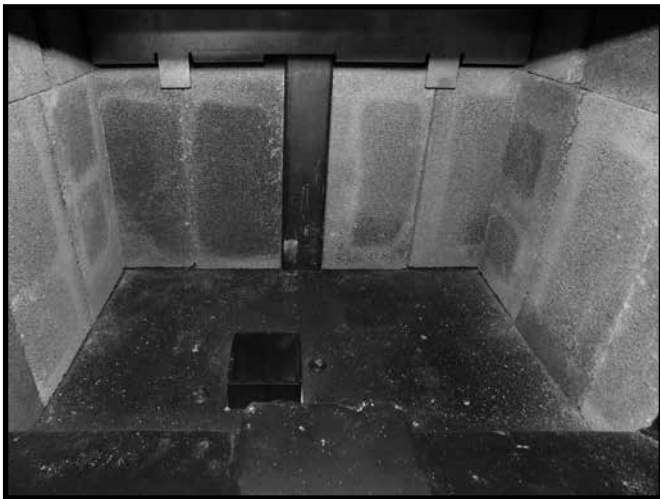

Figure 18. Firebox floor with ash dump.
7. Repeat steps 4-6 on the other side Figure 18.